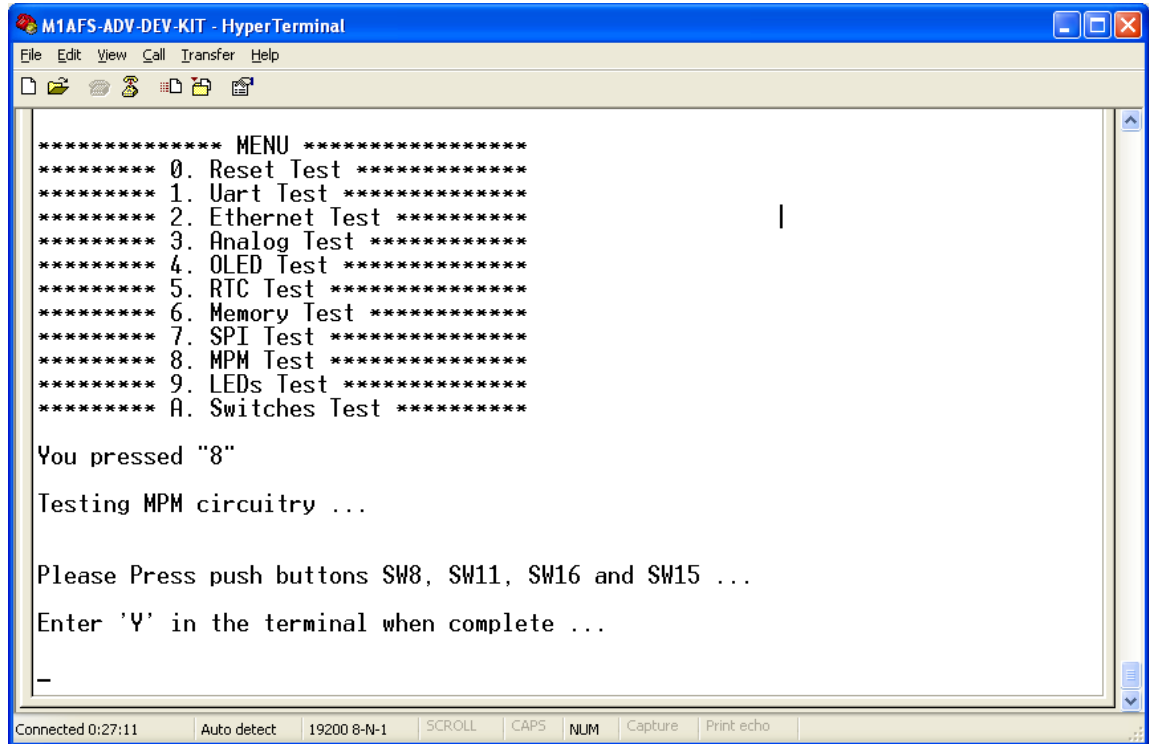

Figure C-24 · MPM Test – Push-Buttons
16. Enter 8 into the terminal to begin the MPM Test. The screen shown in Figure C-24 will appear.